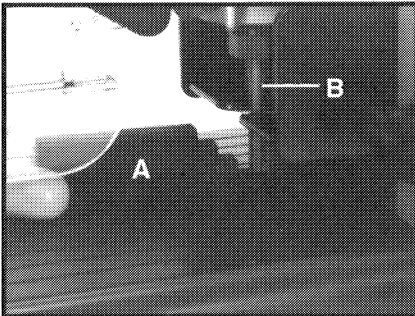

Fig. 5
3. Position the setting gage (A) Fig. 5, (furnished with Model 551) onto the machine base. The setting gage has five steps that are marked with standard material thicknesses.